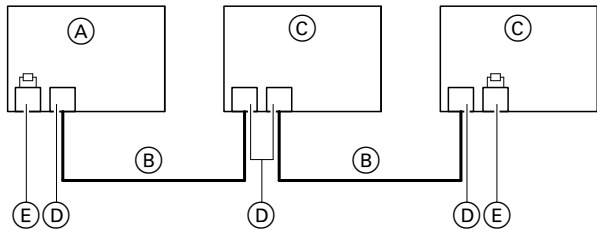

Fig. 44
- The Viessmann CAN bus is designed for "line" bus topology with a terminator at both ends: See Fig. 44.